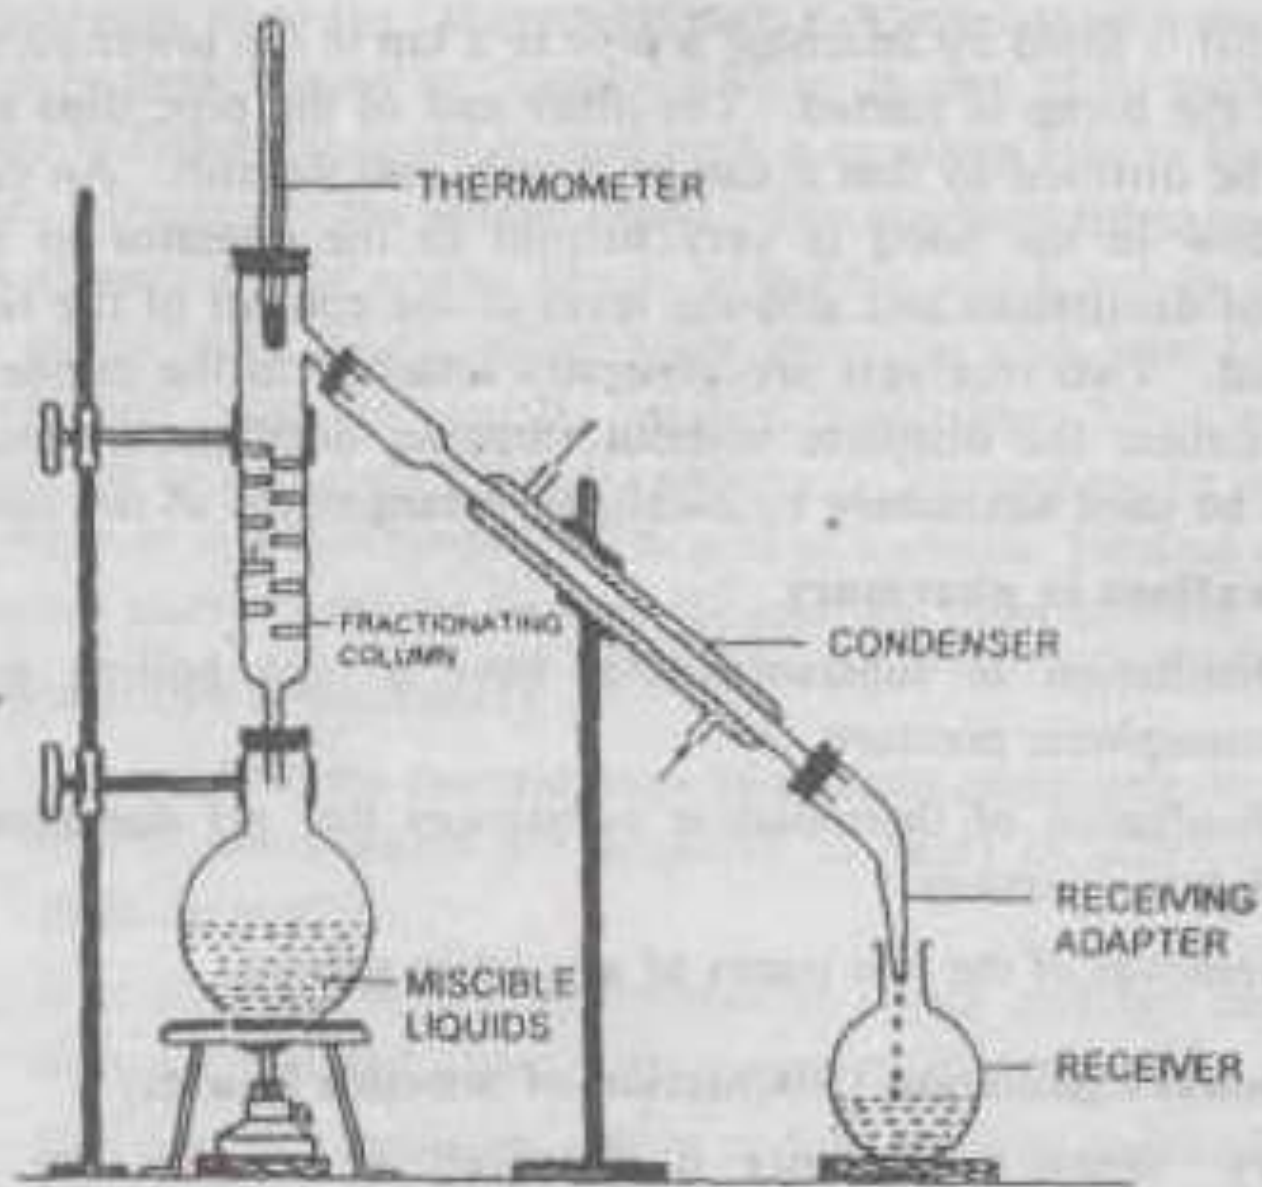

Fig.11-4 Fractional distillation (on laboratory scale)
**Apparatus used for laboratory scale** The apparatus used for laboratory scale is as shown in Fig. 11-4. Fractionating column is fitted between the distillation flask and the condenser. Fractionating column is used for continuous separation of two miscible liquids. Long fractionating column is used in the mixture where the boiling point is quite close to each other and short fractionating column is used in those cases where there is a considerable difference in the boiling point of the mixture of miscible liquids